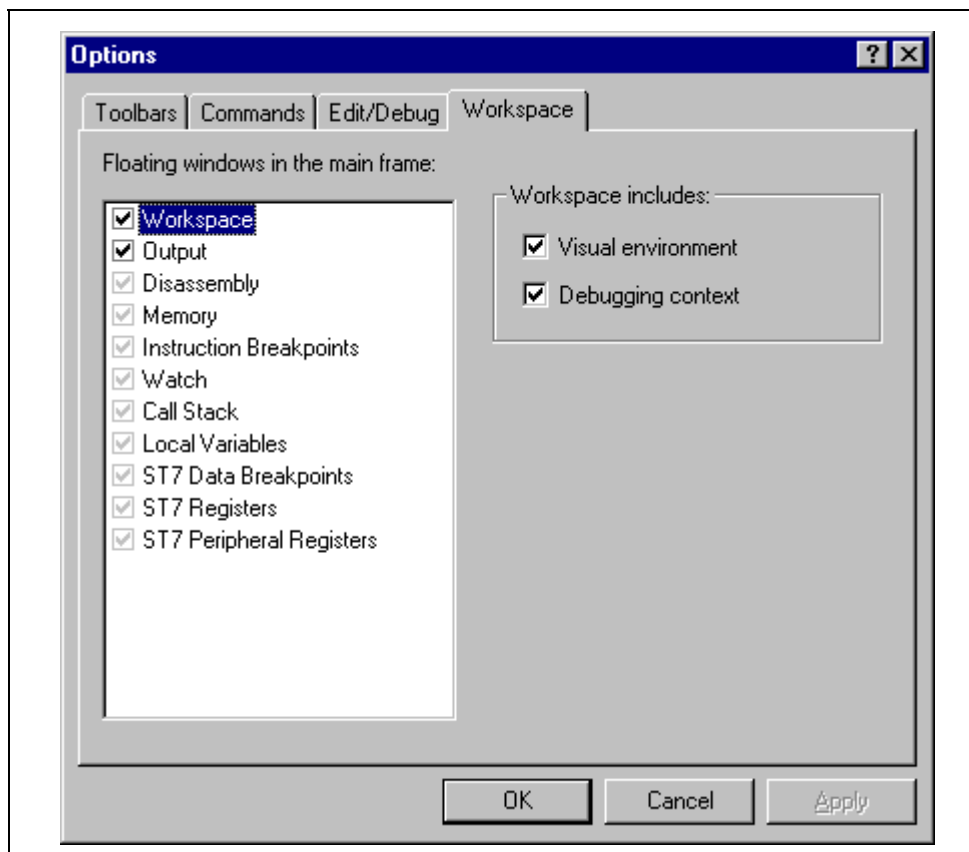

Figure 21: Workspace tab of Options window
- 2 In the Options window that opens (see Figure 21), select the **Workspace** tab.